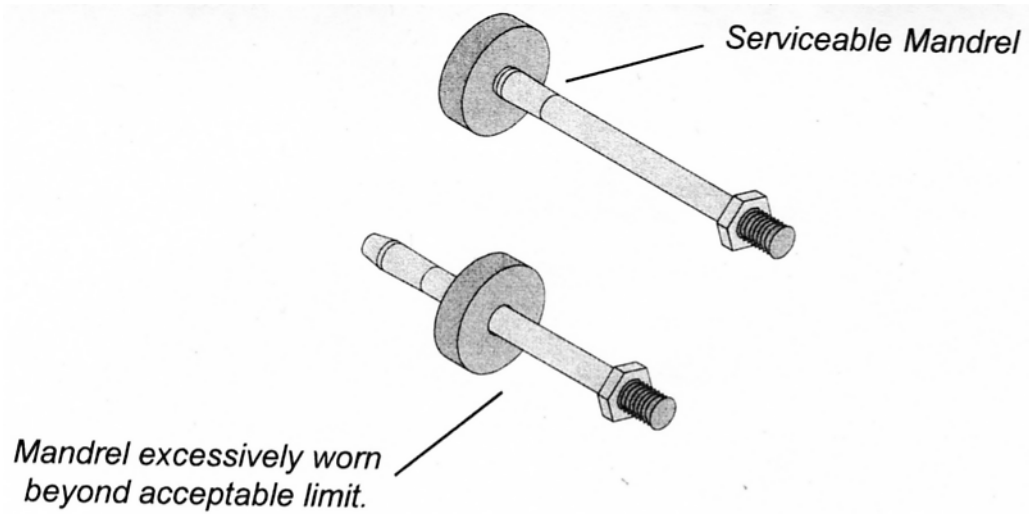

Figure 4-7
11. Select the proper mandrel and check major diameter for wear by inserting mandrel into mandrel gage. If the mandrel can be passed through the gage, it is excessively worn and must be discarded (Figure 4-7).